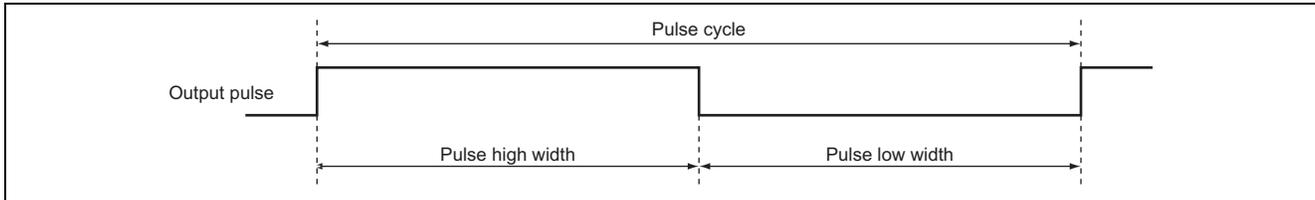

Figure 1 Example of Long-Cycle Pulse Output
- (1) Performs 32-bit counting and outputs a long-cycle pulse with a variable duty cycle (see figure 1).
- (2) The duty rate can be set to any value from 0 to 100%, with a resolution of 1/65535.
- (3) In operation at 20 MHz, the pulse period can be set to any value between 6.55 ms and 214.7 s, in 3.27-ms units.